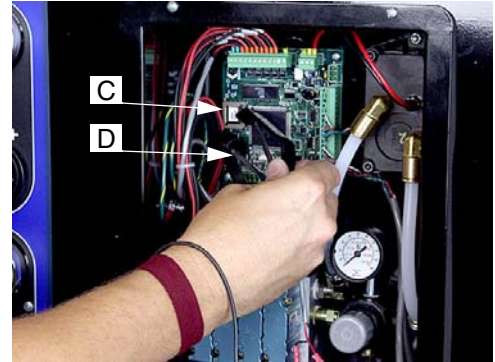

FIG. 9
2. Use a chip remover (D) to remove software chip (C). FIG. 9.